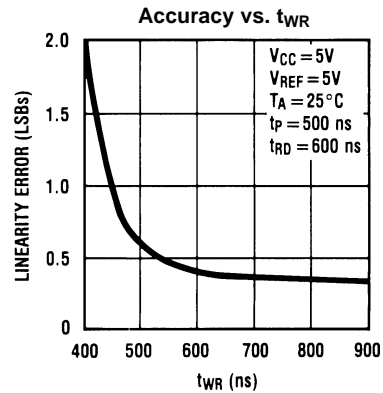
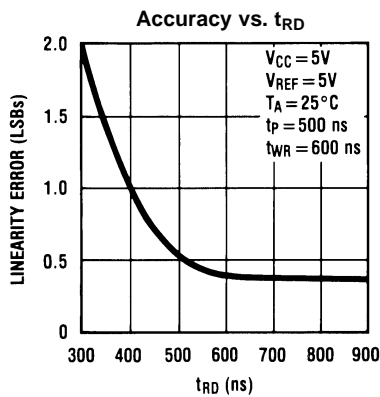

Figure 11.
Figure 12.
- (1) Typicals are at $25^\circ C$ and represent most likely parametric norm.
- (2) Tested limits are guaranteed to National's AOQL (Average Outgoing Quality Level).
- (3) Design limits are guaranteed but not 100% tested. These limits are not used to calculate outgoing quality levels.
- (4) Accuracy may degrade if t_{WR} or t_{RD} is shorter than the minimum value specified. See Figure 11 and Figure 12 graphs.